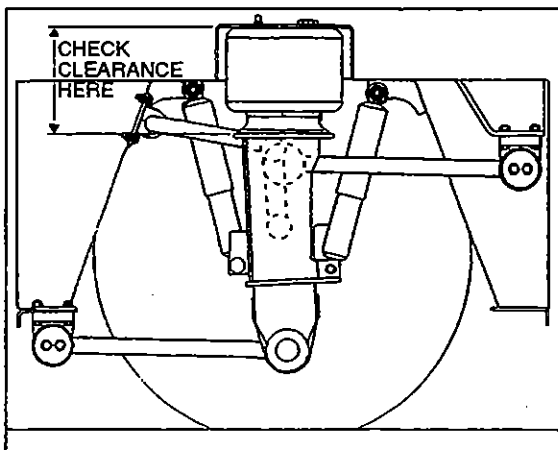

Figure 13
1. With the vehicle at normal operating air pressure, check the air spring clearance as illustrated in figure 13. This clearance should be 12 ± 0.25 " (305 ± 6 mm) for the front axle air springs and 11.5 ± 0.25 " (292 ± 6 mm) for those on the drive axle.
Note: The measure should be taken from under the upper air spring support on sub-frame to top of the lower air spring support on axle (refer to fig. 13 for more details). If adjustment is required, begin with the drive axle.